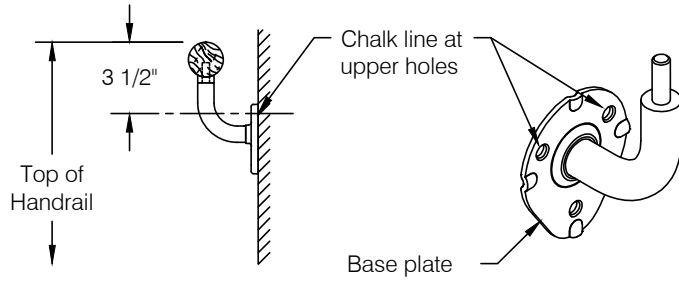

fig 1
- Step 1:** Determine top of handrail height and snap a chalk line 3 1/2" below for the centerline of the two uppermost mounting holes, see **fig 1**.